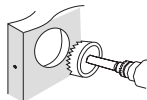

Figure 3a
- Drill 2-1/8" (54mm) hole through door face as marked for lock set (Figure 3a).
- Insert Deadbolt Latch Set into door edge hole with the word "UP" and the arrow on the extension plate facing UP. Cross shaped spindle connector will be at the bottom of the Deadbolt Latch Set (Figure 3a).